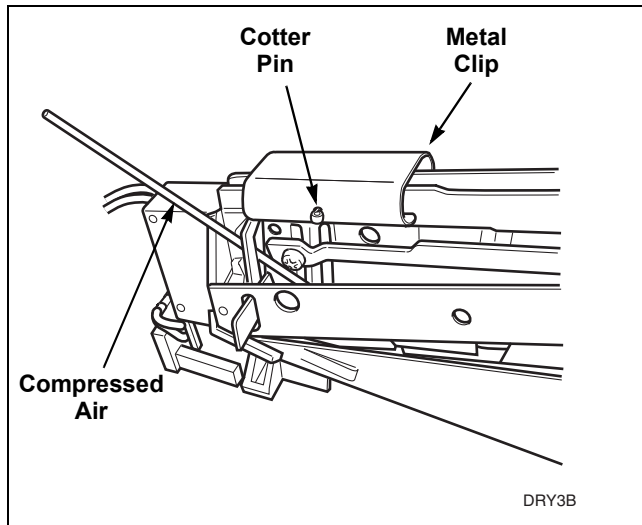

Figure 19
- c. If lint is preventing coins from rolling through coin drop, blow compressed air through coin drop, and along the side of the coin drop. Refer to *Figure 19*.
- e. Remove cotter pin from top of drop. Refer to *Figure 19*. Save pin for reinstallation when cleaning is complete.
- f. Move metal clip closer to sensor so that it comes off frame. Refer to *Figure 19*.